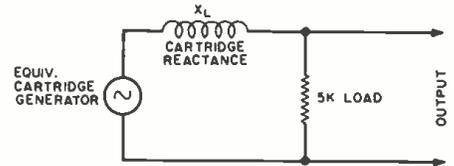

Fig. 2. Equivalent circuit of typical magnetic cartridge.
For example, a G-E variable reluctance monophonic cartridge has an inductance of 500 mhy. and a d.c. resistance of 415 ohms. The cartridge reactance (XL) will change with frequency, being 5000 ohms at 1.6 kc., for example, and 50,000 ohms at 16 kc. Assuming the output load is a constant 5000 ohms (see Fig. 2), the load and the cartridge reactance form a voltage divider that attenuates the signal 20 db at 16 kc. This, in essence, is the method of rolling off the highs as is required for RIAA equalization.